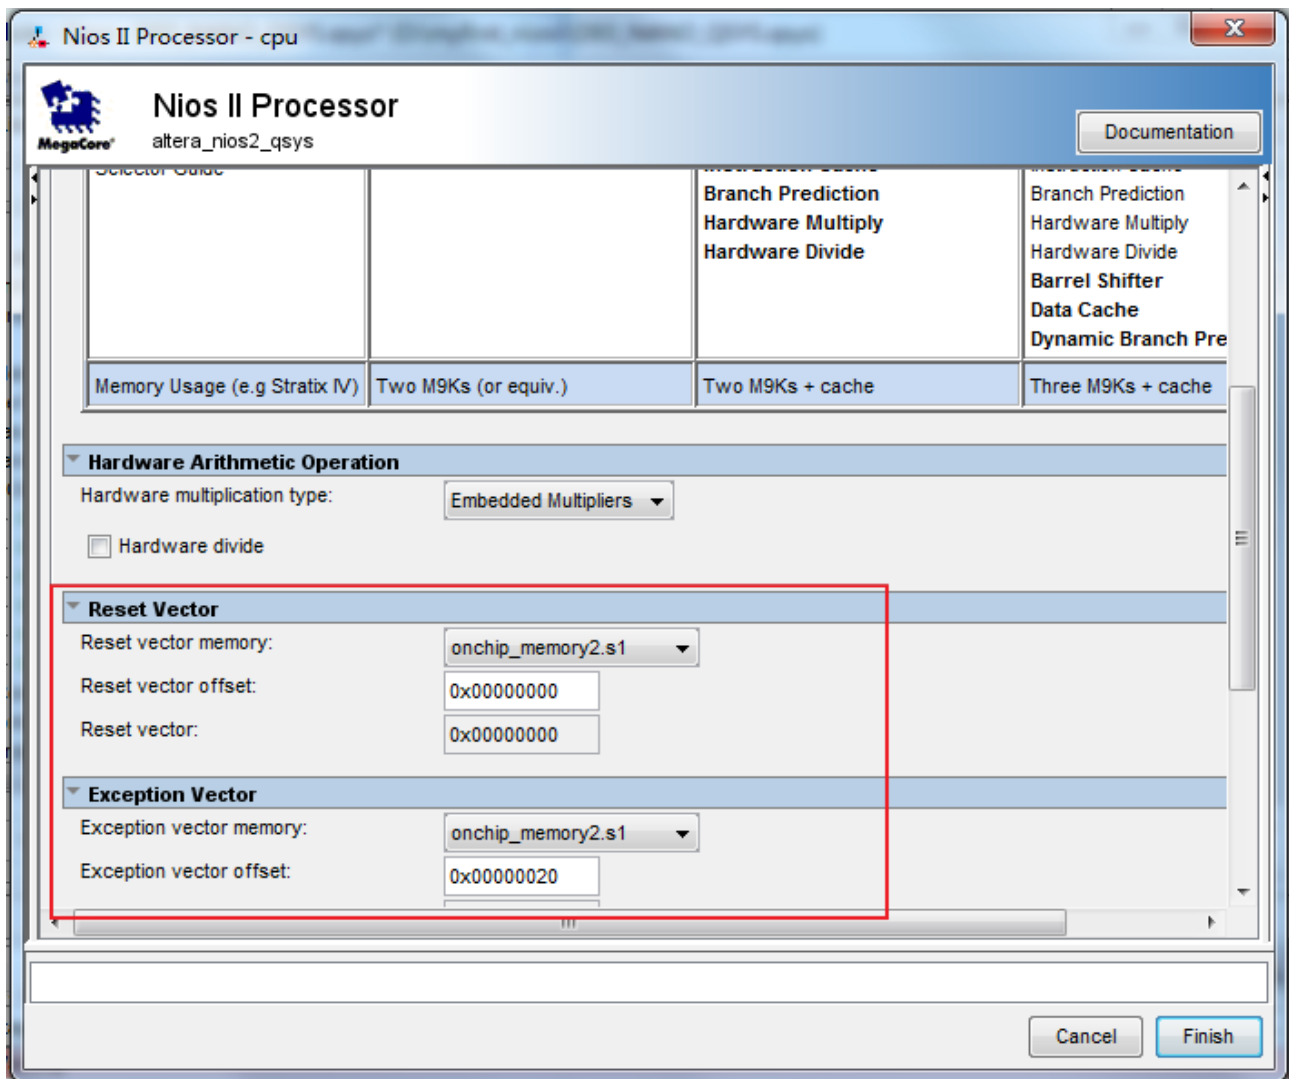
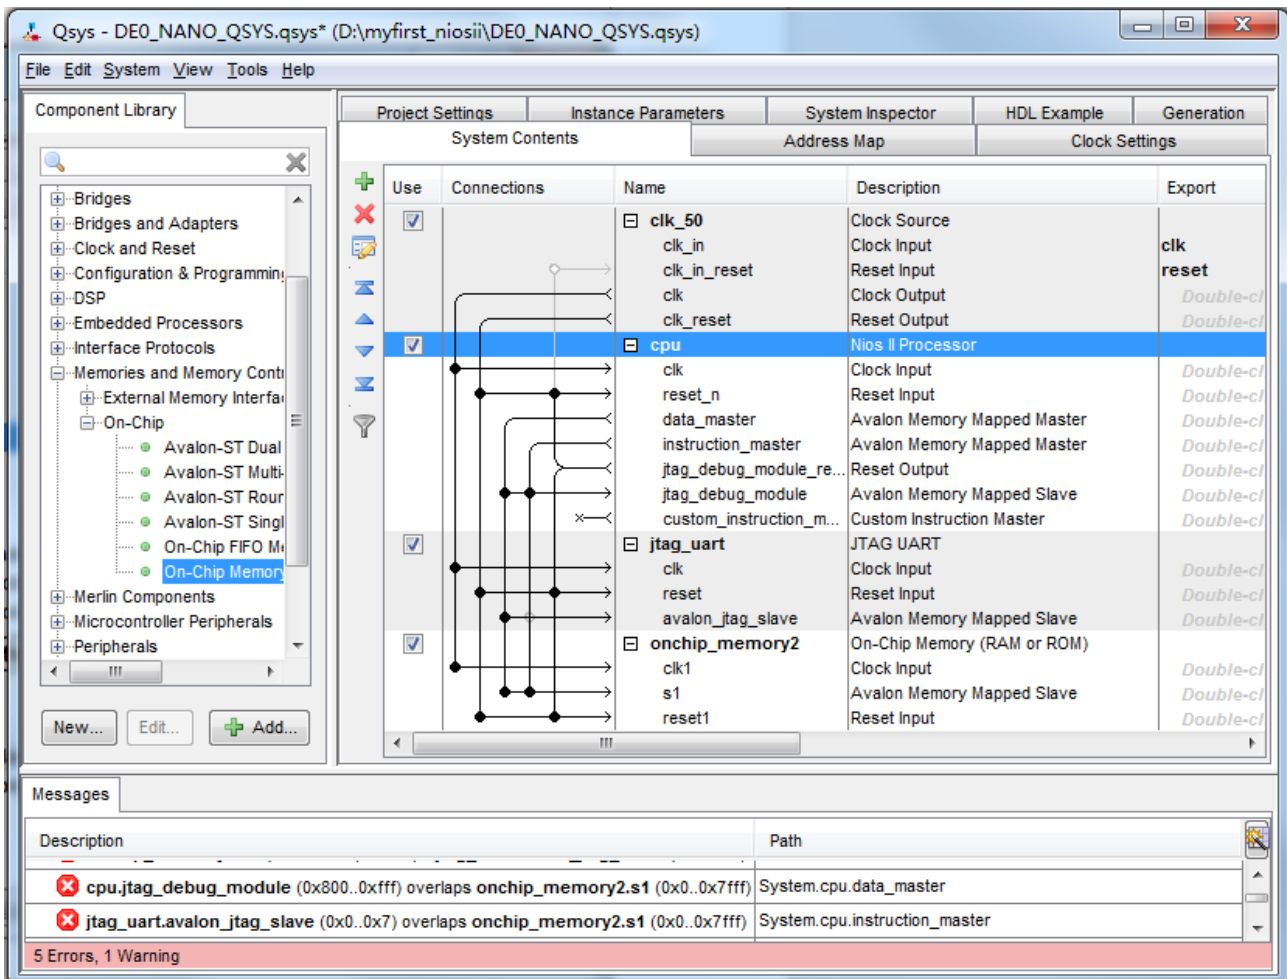

Figure 1-32 Update CPU settings
Figure 1-33 Update CPU settings Completely
- Click **cpu** in the component list on the right part to edit the component. Update **Reset vector** and **Exception Vector** as shown in **Figure 1-32**. Then click **Finish** to return to the window as shown **Figure 1-33**.